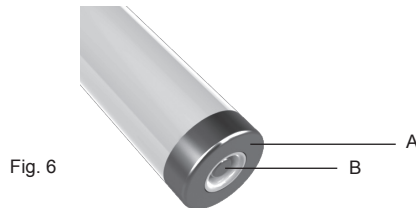

Fig. 6
**⚠ DANGER: Do not short-circuit the electric contacts of the handpiece with metal objects or liquids (Fig. 6 - Ref. A Ref. B).**
**⚠ DANGER:** Do not short-circuit the electric contacts of the handpiece with metal objects or liquids (Fig. 6 - Ref. A Ref. B).